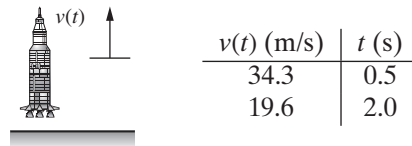

Figure P1.8 A model rocket fired in the vertical plane.
- 1-8.** A model rocket is fired in the vertical plane. The velocity $v(t)$ is measured as shown in Fig. P1.8. The velocity satisfies the equation $v(t) = v_o + at$, where v_o is the initial velocity of the rocket in m/s and a is the acceleration in m/s².
- (a) Given the data in Fig. P1.8, find the equation of the line representing the velocity $v(t)$ of the rocket, and determine both the initial velocity v_o and the acceleration a .